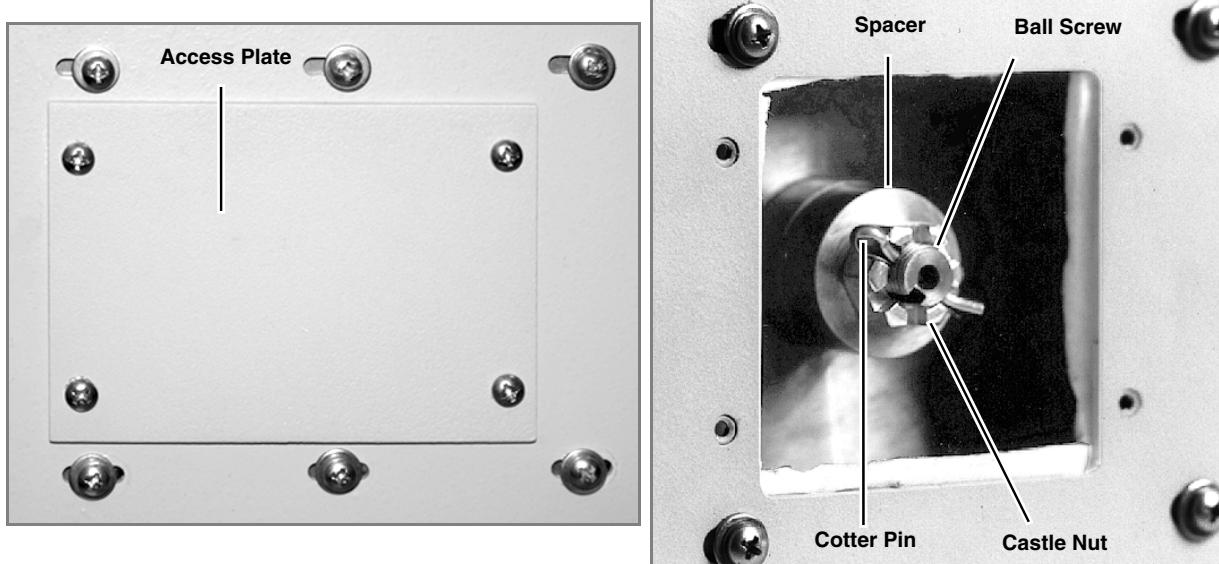

Figure 5-3 Accessing the shear key
1. Place the pump on its side and remove the four panhead screws, that attach the access plate to the case bottom, as shown in Figure 5-3.